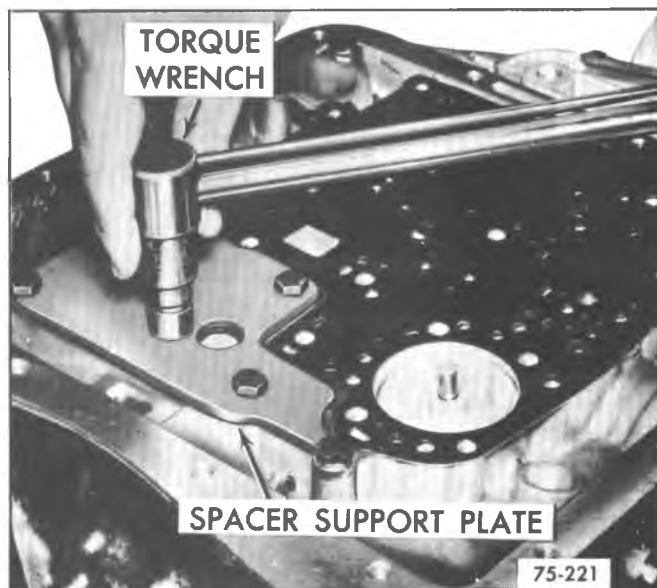

Fig. 7A-16B--Removing Transfer (Spacer) Support Plate
3. Remove auxiliary valve body and solenoid (TCC Model) bolts, or transfer support plate bolts. Disconnect wire from solenoid. Remove auxiliary valve body and solenoid, or transfer support plate (Fig. 7A-16B).